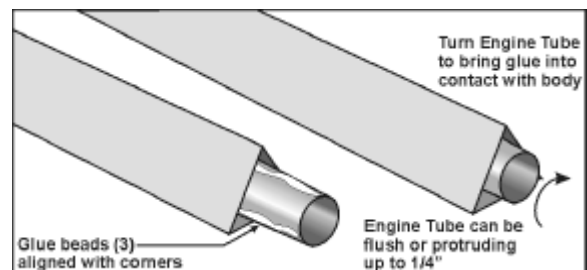

Figure 12
- Run 3 equally spaced thin beads of glue along the length of the Engine Tube, as shown in **Figure 12**. Slide the Engine Tube (with the Engine Block forward) into the bottom of the Body Tube with the glue beads aligned with the **corners** of the Body Tube, until the bottom of the Engine Tube is flush with the bottom of the Body Tube. **NOTE:** If you prefer, you can have the Engine Tube protrude from the bottom of the Body Tube by as much as $\frac{1}{4}$ ". Twist the Engine Tube until the 3 beads of glue come into contact with the flat sides of the Body Tube. Set aside to dry